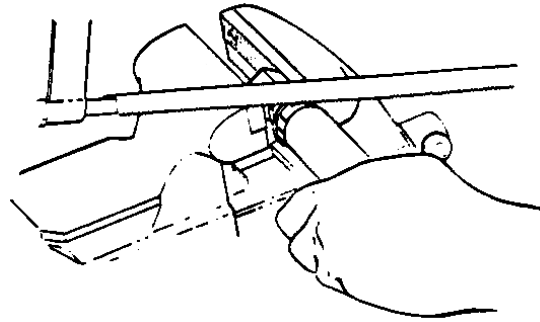

Figure 7: Removing fire sleeve from hose assembly
- Step 1.** (Fire-sleeved hose assemblies only). Remove band clamps by cutting clamp "buckles" with hack saw. Remove fire sleeve from hose assembly. (See **Figure 7**.)